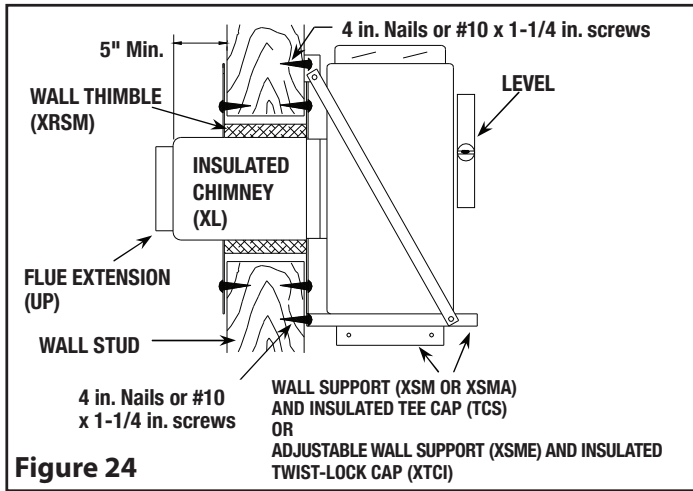

Figure 24
**NOTE:** To provide sufficient strength, the nails must be driven into the wall studs. For concrete walls, the support should be attached using (8) 1/4" x 2" lag bolts.
Step 6. Attach the flue extension to the horizontal chimney length using the three (3) metal screws provided (*see Figure 24*).